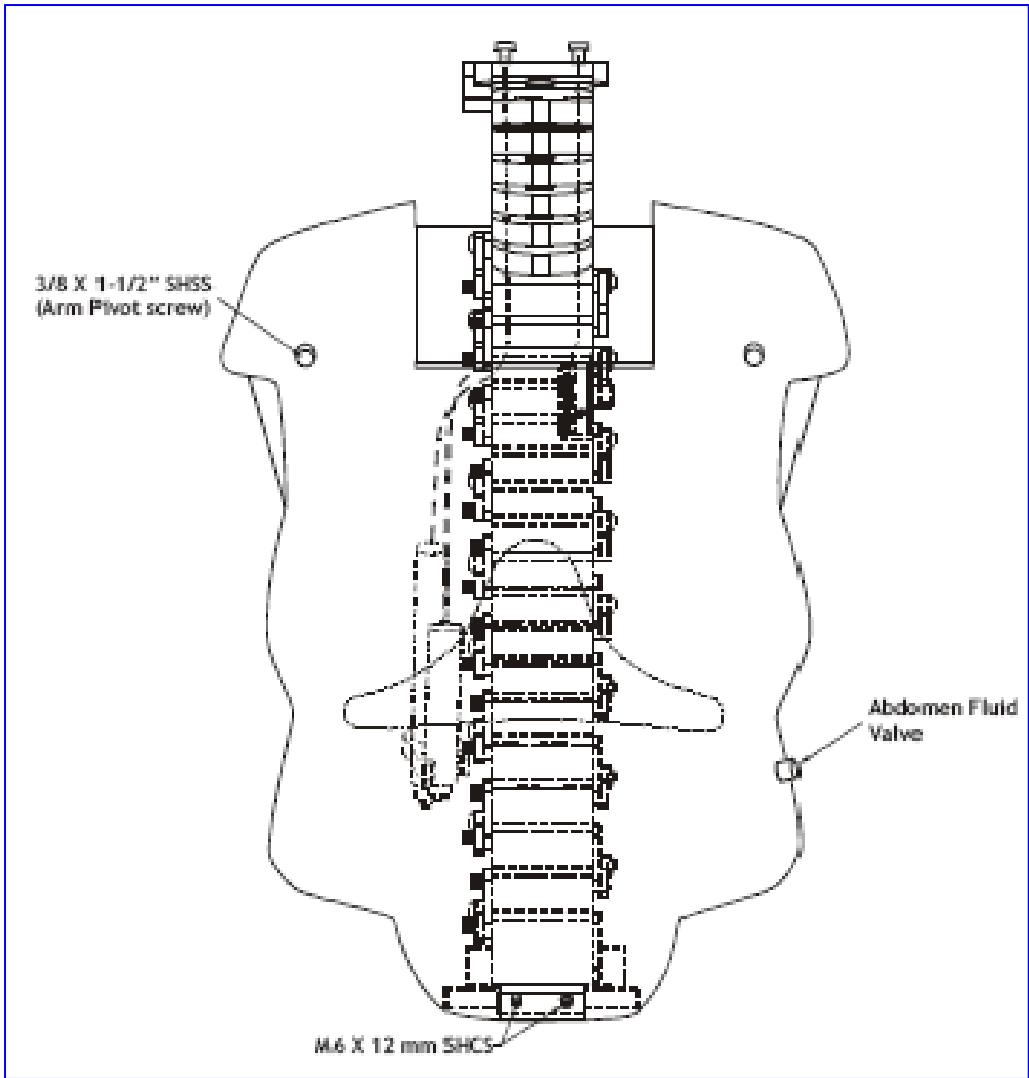

Figure 26 - BioRID II Jacket Assembly
4. Insert the needle into the valve opening. Figure 26 shows the location of the abdomen fluid valve.